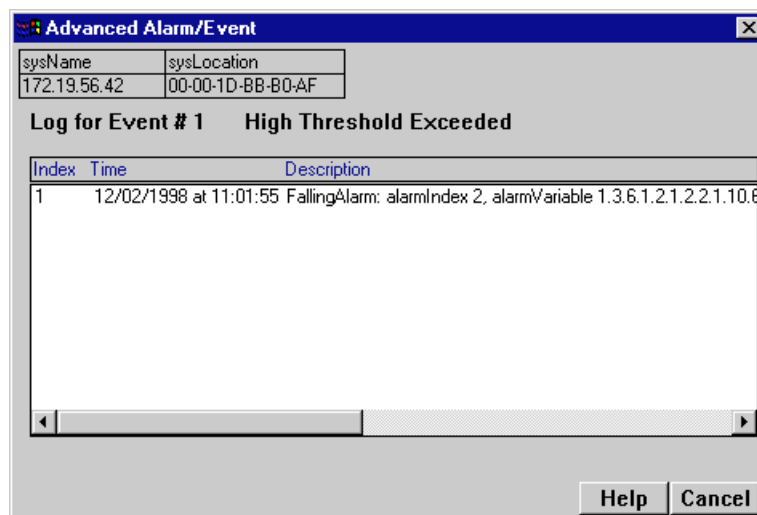

Figure 4-7. The Event Log Window
1. Highlight the event for which you wish to view the log, then click on the **Event Log** button at the bottom of the Advanced Alarm/Event List window; the Event Log window, Figure 4-7, will appear.